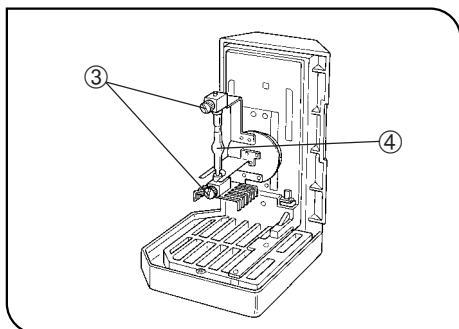

Fig. 18
3. Place the socket section upside down as shown in Fig. 18.